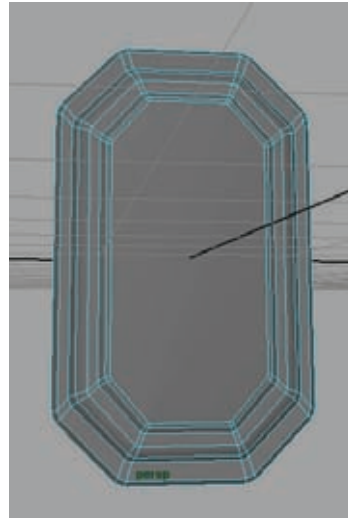

Figure 6.1
6. Use the Extrude and Bevel commands to create three tiers to the wall bracket, as in Figure 6.1.